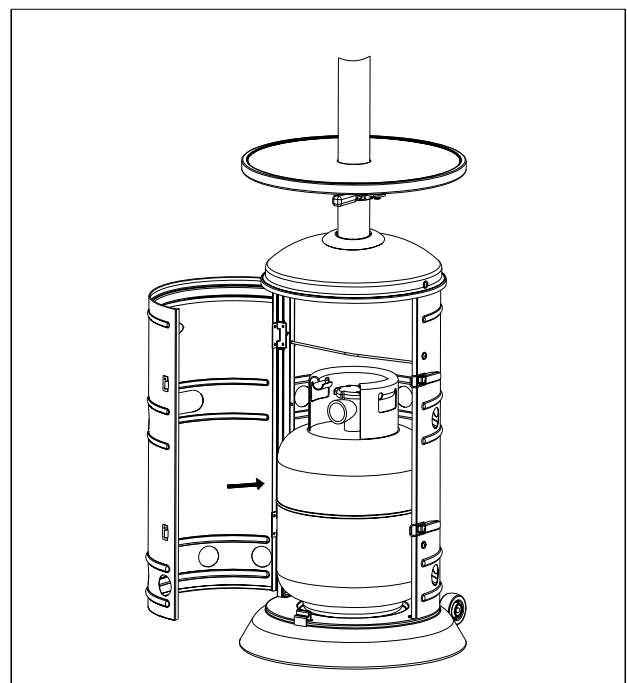

Fig. 11
11. Connect Regulator & Hose Assembly (J) to cylinder (not included). (Fig. 11)